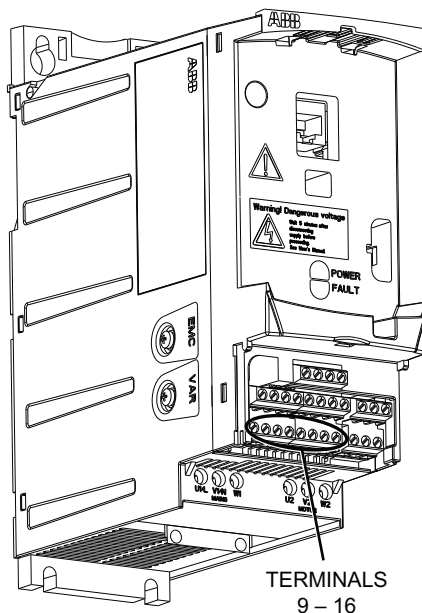

Fig. 72 — ACS320 Terminal Blocks
3. Disconnect the DI1 input at terminal 12. The terminals are numbered on the bottom of the block (see Fig. 72 for the location of terminal block that contains terminal 12).